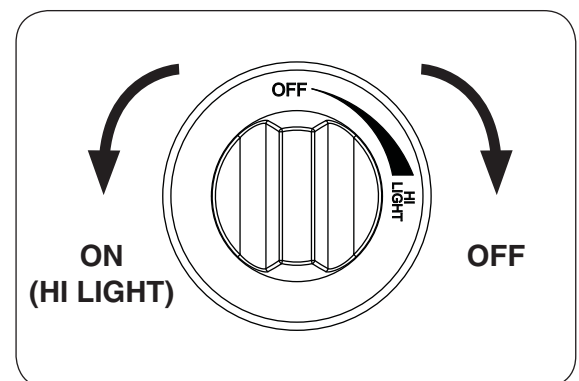

Fig. 23-2
4. **Once the match is burning and in position**, depress the gas control knob and turn it counter-clockwise to the **HI LIGHT** position (see Fig. 23-2). Your burner should light.
To extinguish your gas burner, depress the gas control knob and turn it clockwise to the **OFF** position (see Fig. 23-2). Be sure the control knob is turned fully off to avoid any gas leakage.